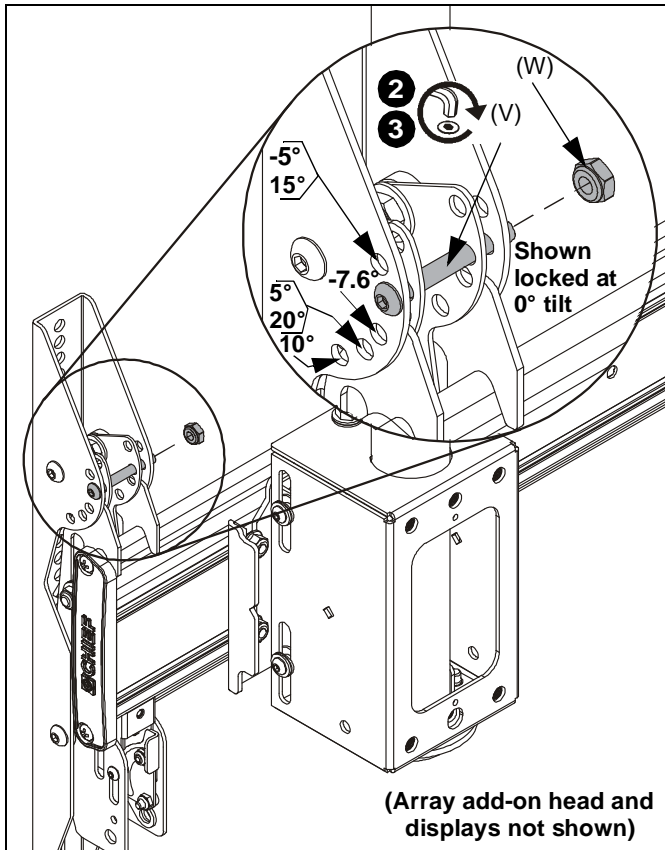

Figure 18
1. Adjust tilt as required. (See Figure 18)
2. The tilt may be locked using one 1/4-20 x 2" button head screw (V) and one 1/4-20 lock nut (W) per interface bracket. (See Figure 18)